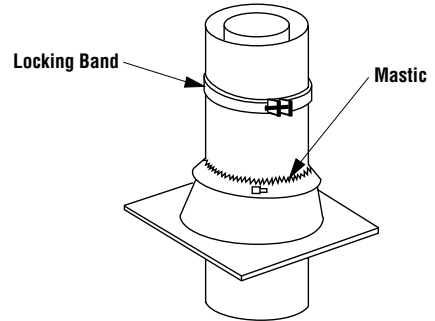

Figure 30
Step 8. The standard Security Chimneys FTF10 roof flashing assembly includes a storm collar. Slide storm collar over outer chimney, align with top surface of flashing, insert storm tab in slot, pull tight and bend tab back over slot. Seal storm collar to outer chimney with roof caulking or mastic around entire circumference of pipe. Also add extra roof caulking where storm collar meets flashing and to the tab/slot area to seal completely against water penetration (*Figure 30*). Check all joints very carefully to ensure no water intrusion can take place.
Step 9. Security Chimneys locking band, Model FLB, may be required if the chimney extends too high above the roof flashing. As a general rule, if the chimney extends more than 6' (1.8 m) above the roof/flashing, the use of locking bands is advisable to strengthen the chimney joints. Align the locking band at the pipe joint. Locking bands wrap around pipe joints equally covering the joints of both pipe sections. Use nut provided and TIGHTEN snugly. Do not over tighten as this might damage chimney section (*Figure 30*).